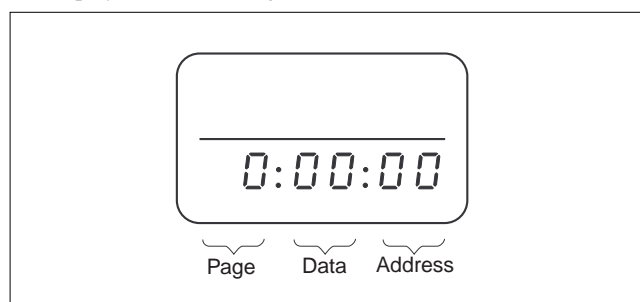

Fig. 6-4-1
- 2) Set the HOLD switch of the adjustment remote commander to "HOLD" (SERVICE position). If it has been properly connected, the LCD on the adjustment remote commander will display as shown in Fig. 6-4-1.